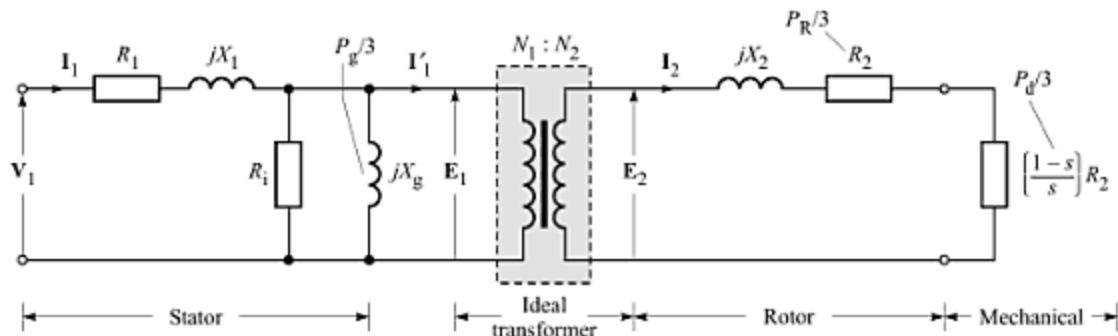
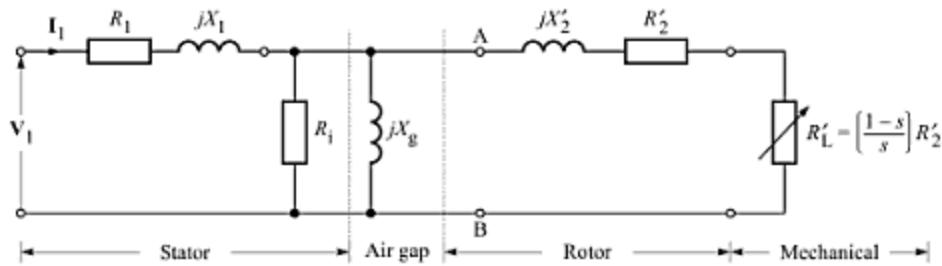

Fig. 15.7 Equivalent circuit accounting for developed mechanical power.
Fig. 15.8 Equivalent circuit with rotor impedance transformed to stator-side.
which accounts for the *rotor electrical loss*, and (2)  $[(1-s)/s] \times R_2$  which accounts for the *developed mechanical power*. The result is shown in Fig. 15.7. The figure also shows resistor  $R_1$  to account for the stator copper loss,  $R_i$  for iron loss, and  $X_1$  as the leakage-flux reactance.
We can further simplify the circuit of Fig. 15.7 using the properties of an ideal transformer. If  $K = (N_2/N_1)$  is the transformation ratio, the equivalent impedances as referred to the primary (stator) are given by Eq. 13.8 as  $R'_2 = R_2/K^2$  and  $X'_2 = X_2/K^2$ . Thus, we get the equivalent circuit of Fig. 15.8.
As for a transformer, we could have further simplified the circuit of Fig. 15.8 by shifting the shunt branches  $R_i$  and  $X_g$  to the right of rotor impedance. However, this simplification cannot be done in an induction motor without incurring considerable error, as the no-load current is about 25 % to 40 % of the rated current.
We can make use of the equivalent circuit of Fig. 15.8 by finding Thevenin's equivalent of the circuit on the left of terminals A-B. In practice, the core losses in an induction motor are quite small compared to the other powers. We can therefore ignore the resistance  $R_i$ . Thevenin's voltage is given as